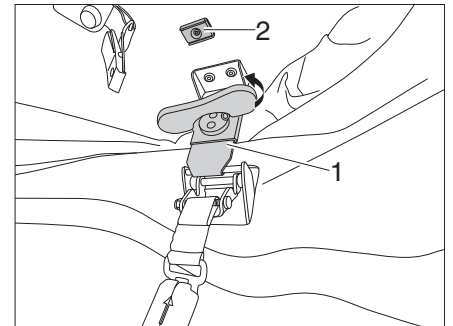
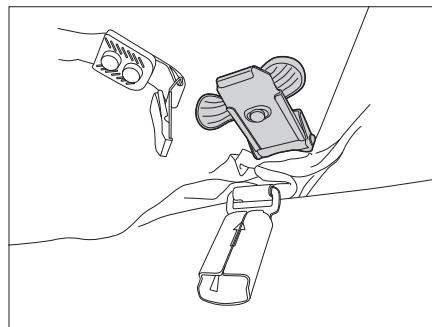

Fig. 18 Releasing the locking mechanisms
Fig. 19 Fastening the locking mechanism
- Set up the twist grips of the left- and right-hand locking mechanism (Fig. 18,1) and turn counter-clockwise until the locking mechanisms are loosened.
- Fold the twist grip further downward and attach the locking mechanism to the magnet (Fig. 18,2) (Fig. 19).